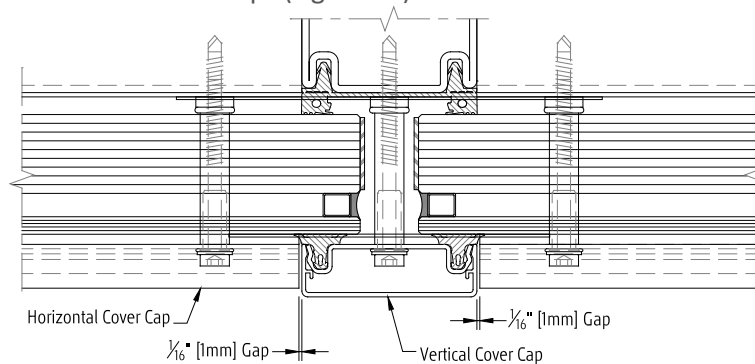

Figure 43 - Cover Cap Installation
- Tighten each screw so it is threaded all the way in **without applying pressure on the gasket**. Gasket should be straight, and not curled (Figure 43 Left).
- Using a compatible sealant, seal the ends of the horizontal pressure plate between the two pressure plate gaskets and the cover plate. (Figure 43)